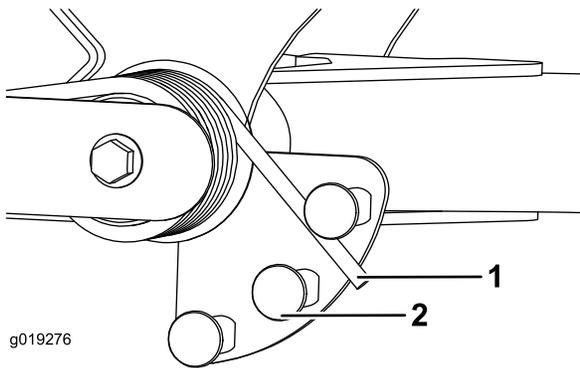

Figure 31
2. Insert a tube or similar object onto the long spring end and pivot it around the spring actuator to the desired position (Figure 31).